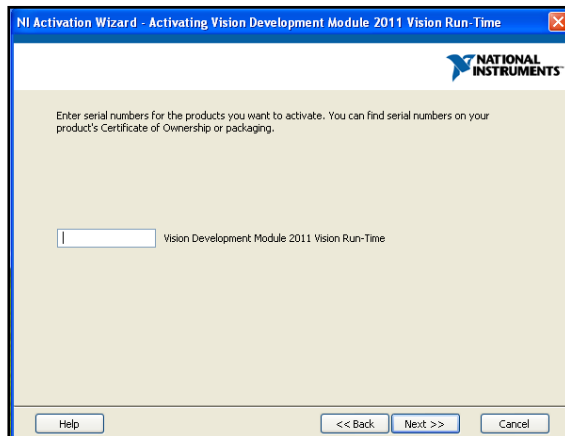

Figure 7. Vision activation code.
9. The NI Activation Wizard will prompt to enter the serial number for the “Vision Development Module 2011 Vision Run-Time” (Fig. 7). Input the Serial Number located on the NI Vision Development Module Run-Time License, which is included with the equipment documentation.